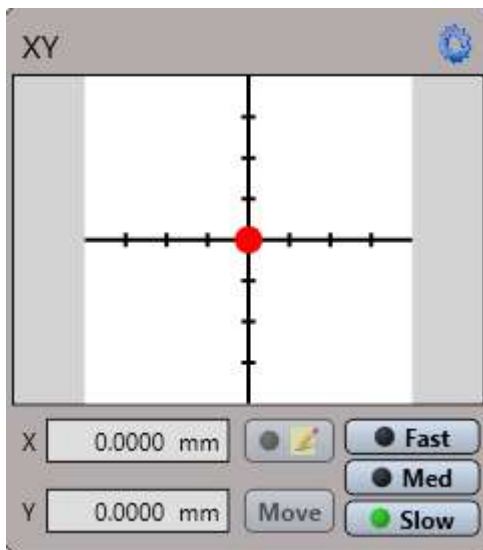
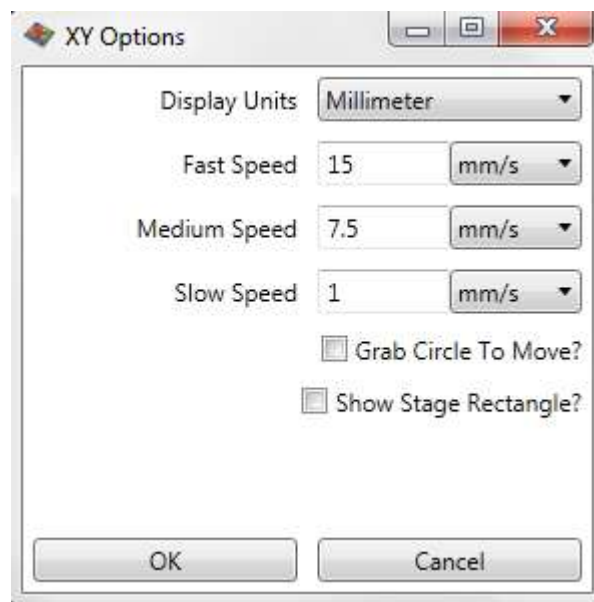

Figure 5: X-Y Stage Control Panel
Figure 6: X/Y Options Dialog Box
1. In the X-Y Control Panel in the Live Video Display (see Figure 5), click the blue Gear icon in the upper right corner to enter the select the units as well as the speeds for Fast, Medium, and Slow (see Figure 6). If you select the **Grab Circle to Move** check box, you must grab the red circle in the middle of the X-Y Control Panel before you can adjust the X/Y position of the motorized stage. When your settings are complete, click **OK**.